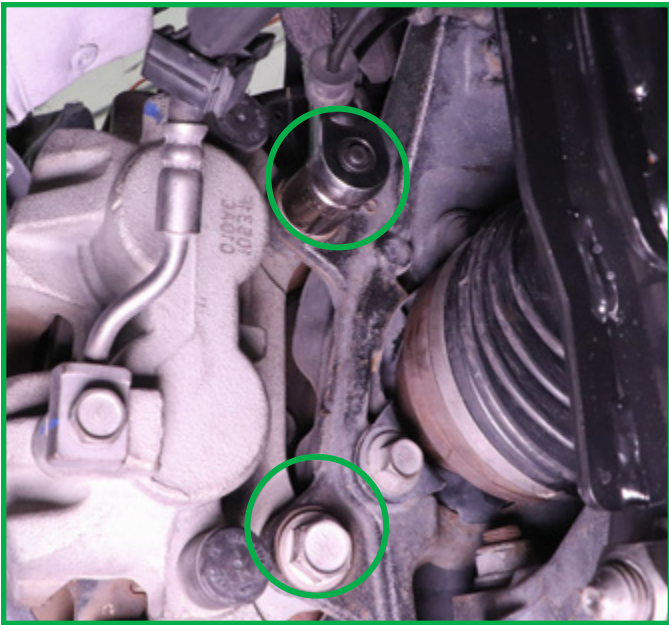

FIGURE 33
7. Reinstall the brake caliper and retaining clip. Tighten to manufacturer's specifications. (Figures 33, 34)